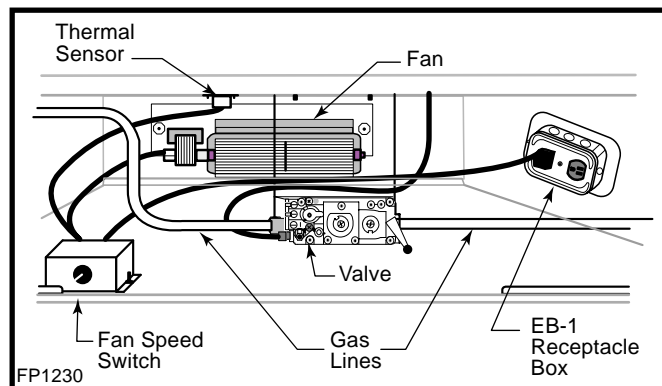

Fig. 51 FK24 fan placement.
3. Locate the fan speed control unit. This can be fitted behind the lower louver assembly as in Figure 51 or located remotely in a conveniently located wall mounted electrical box. Remote location of the speed control will require suitable extension of the component wiring.